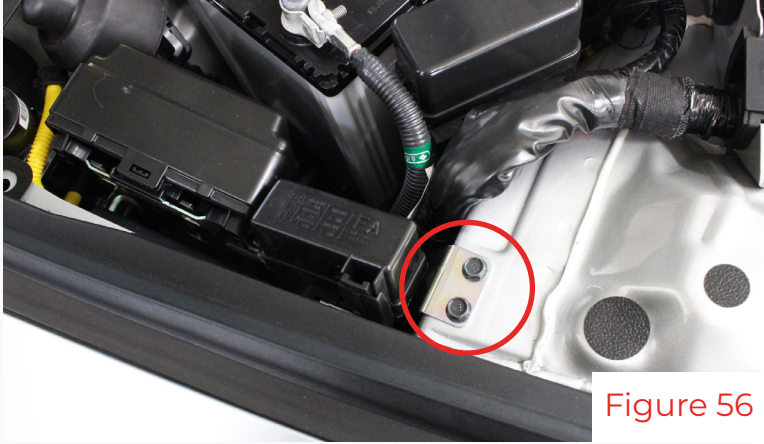
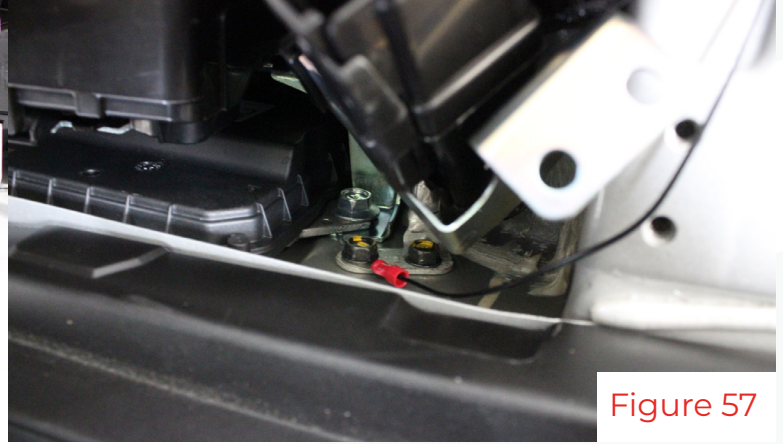

Figure 56
Figure 57
27. Remove the two bolts holding the small fuse box in the battery compartment(fig 56) and install the ring terminal on one of the ground bolts(fig 57).